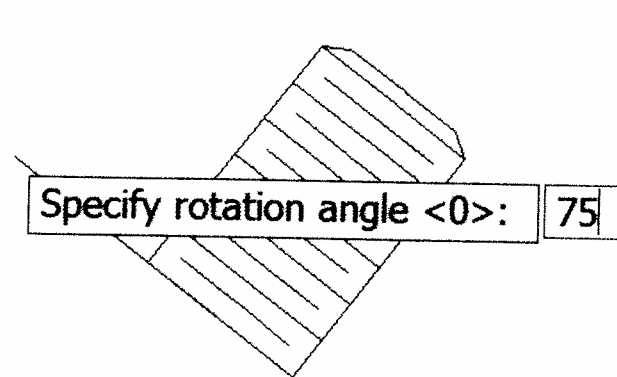

Figure 6-12a
Figure 6-12a shows the effect of changes in the rotation angle.
- The prompt to specify the rotation angle will appear on the screen and specify the angle and press the *Enter* key Figure 6-12a.